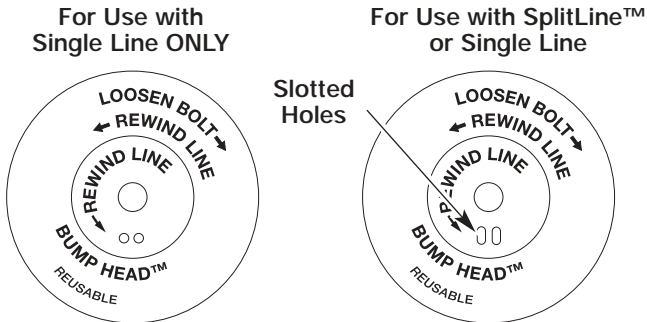

FIGURE 27
**NOTE:** *SplitLine™ can only be used with the inner reel containing the slotted holes. Single line can be used on either type of inner reel. Use Figure 27 to identify the inner reel you have.*